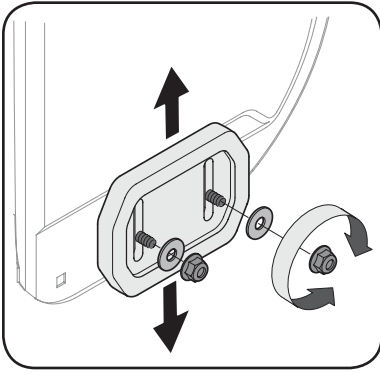
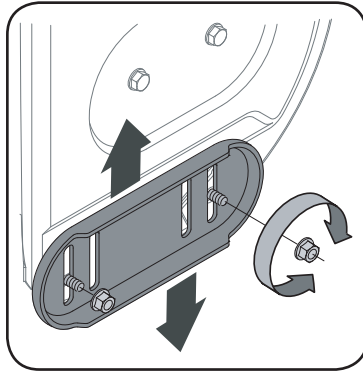

Figure 5-4 - Small Plastic Reversible
Figure 5-5 - Steel Reversible
**NOTE:** Some models are equipped with reversible skid shoes and may be turned over to increase their lifespan. See Figure 5-4, Figure 5-5 and 5-6.